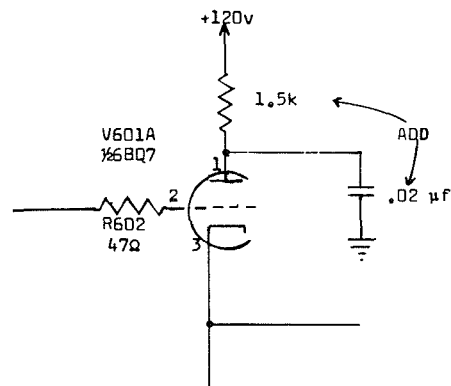

Figure 4. Type 524D/524AD Time-Mark Generator for serial numbers 1843 and up (partial schematic).
1. Refer to Figure 4. Decouple the 120 v plate supply of V601A by adding a 1.5k, 1w, 10% composition resistor (Tek no. 304-152) and a 0.02 μ f, 600 v discap (Tek no. 283-006) as shown in Figure 4.